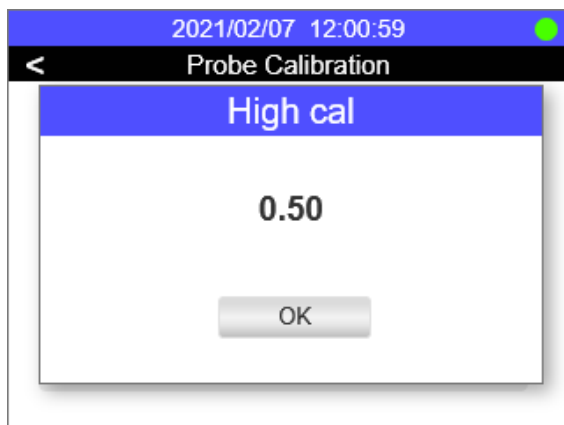

Figure 9. High (slope) Calibration
**\*NOTE\*** - *the value shown in Figure 9 is the oxygen percentage in the calibration gas, not the dissolved oxygen concentration in ppb or ppm. The ST-774 probe will automatically convert the oxygen percentage concentration along with the measured barometric pressure and temperature to the precise dissolved oxygen concentration in ppb or ppm during the calibration process.*